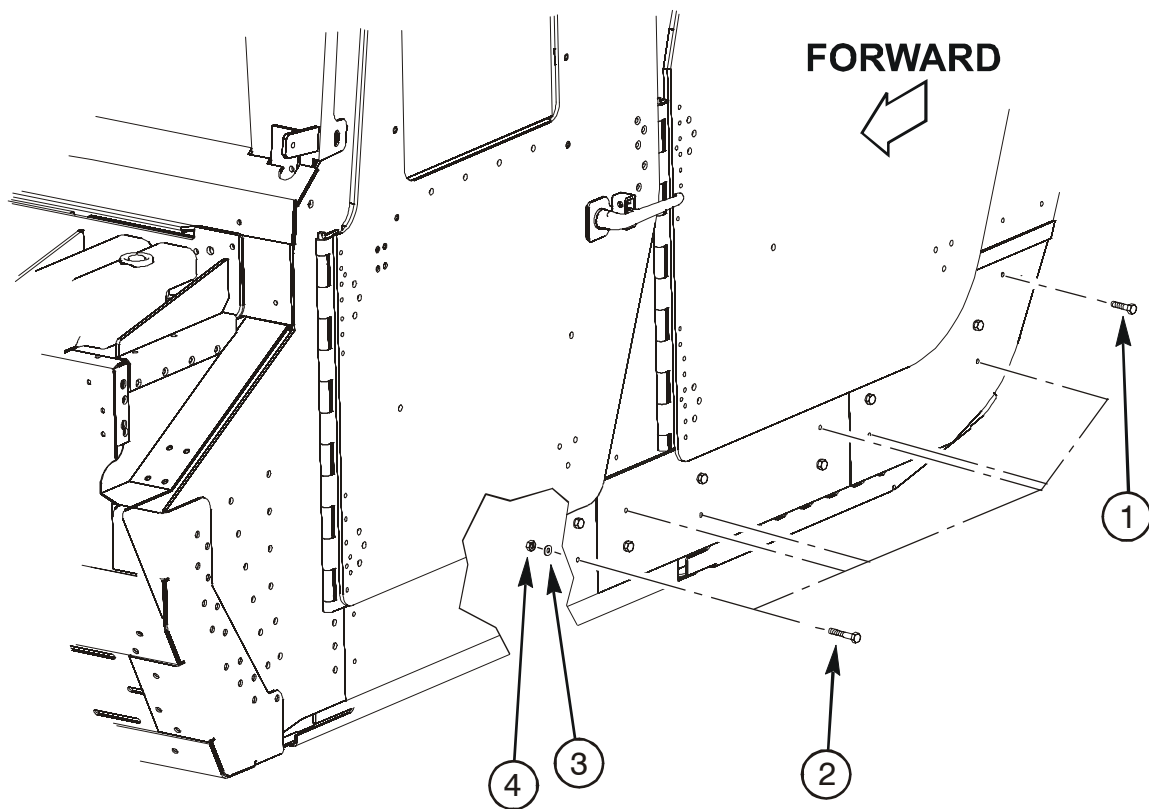

Figure 4.
6. Remove six screws (2), nuts (4), washers (3), and one screw (1) from left side rocker locations shown in figure 4. Discard used fasteners.